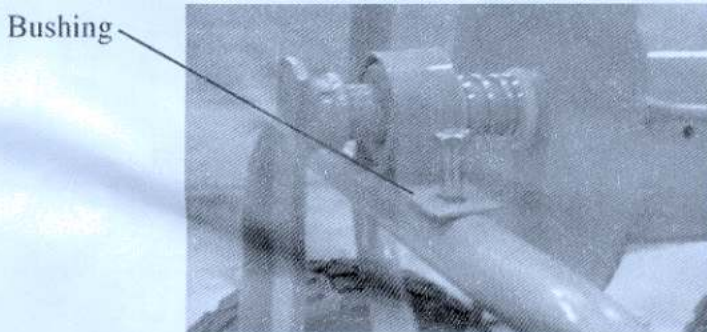
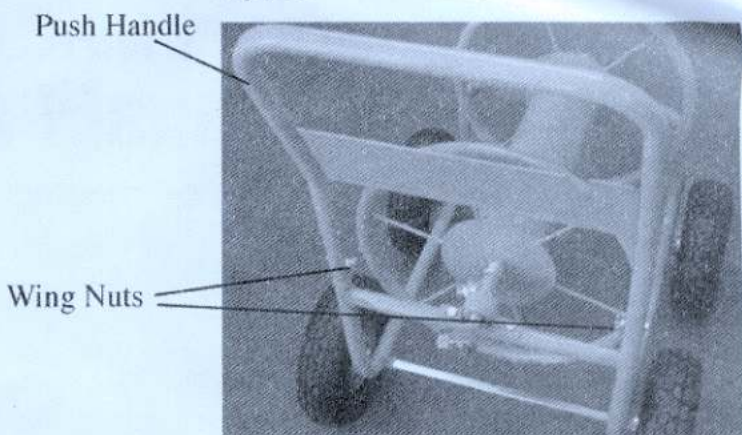

Figure 5
Figure 6
- Place the Spool (B) on the Frame (A) so the bushings are oriented over the holes on the frame as seen in figure 5. You may have to compress the spring to get the spool oriented properly.
- Insert the 1.75" bolts thru the bushings and thru the holes in the frame as seen in figure 5.
- Slide Push Handle (E) over the exposed frame ends and align the holes.
- Insert the 1.44" bolts thru the handle holes and secure with supplied wing nuts as seen in figure 6.